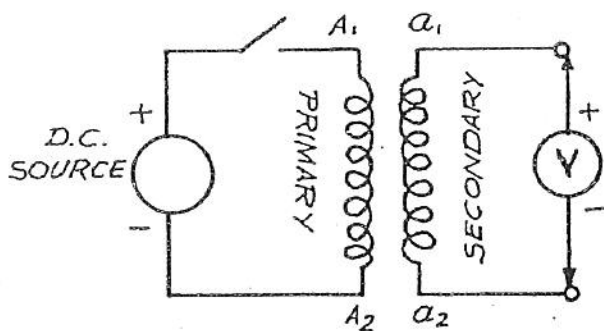

FIG. 1 : DC Kick Test
2. Connect the low voltage d.c. source to the primary winding through the switch 's' such that the positive terminal of the voltage source is connected to terminal (say) A1 of the primary winding as shown in the fig. 1 and positive terminal of the voltmeter is connected to terminal (say) a1 of the secondary winding as shown in fig. 1.
2. Connect the primary and secondary windings as shown in fig. 1.
4. Switch on single phase a.c. supply to its primary winding and measure voltages across primary winding (AB) secondary winding (ab) and Aa.
- Using proper sequence connect the three transformers in Delta/Star (shown in fig. 1) switch on the three phase 220V a.c. supply to the primary and measure line and phase voltages of primary and secondary. Note them in delta-sheet given :